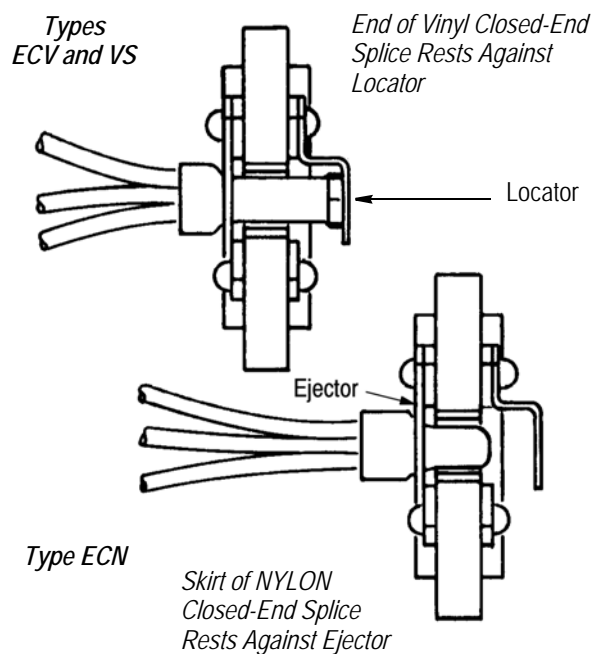

Figure 3
3. Locate the splice with the wires inserted into the crimping dies as shown in Figure 3. the skirt of the ECN (Nylon) splice should nest against the splice ejector. The ends of the ECV or VS (Vinyl) splices should rest against the end of the locator.